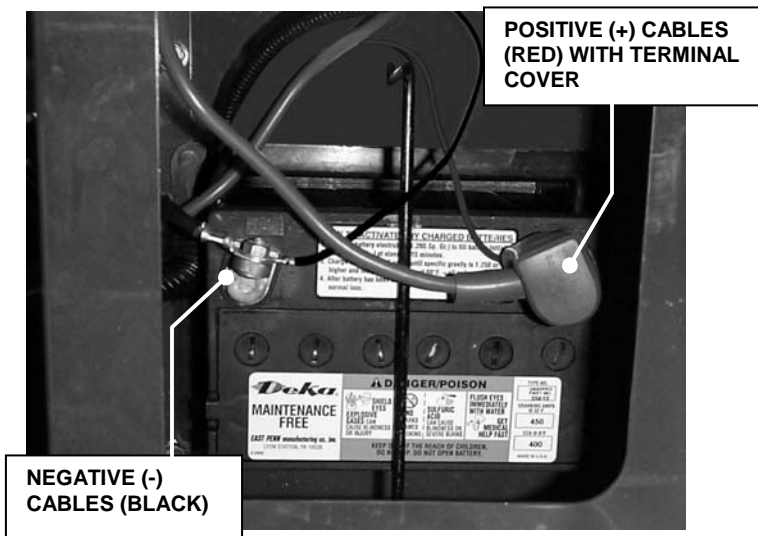

FIGURE 1.6
10. Attach battery cables to terminals on the battery as shown. See Figure 1.6. Connect positive (+) cables (red) first, from wiring harness to the positive terminal (+) on battery and secure with nut provided in hardware bag. Connect negative (-) cables (black) last, to negative terminal (-) on battery and secure. Apply a small amount of grease over terminals to prevent corrosion. See Figure 1.6.